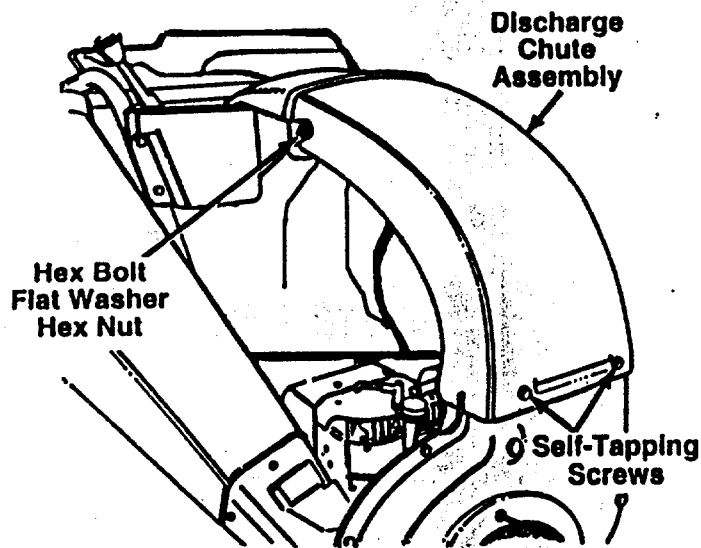

Fig. 1
3. Remove the flail screen by removing the four self-tapping screws from the bottom of the discharge chute. Lift off the discharge chute assembly from the unit. See figure 1.